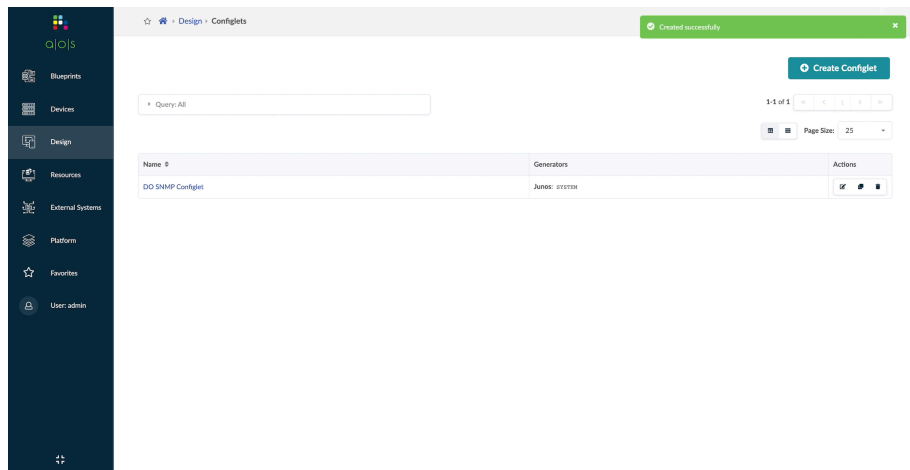

Figure 7.3 Example of a Newly Created Configlet
Step 6: The new configlet is now created. See Figure 7.3.